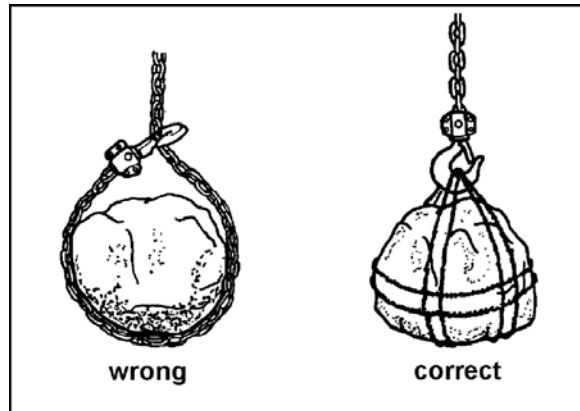

Figure 7
- When lifting loads, hook the load with slings. **Do not use the lever hoist chain as a sling** (Figure 7).